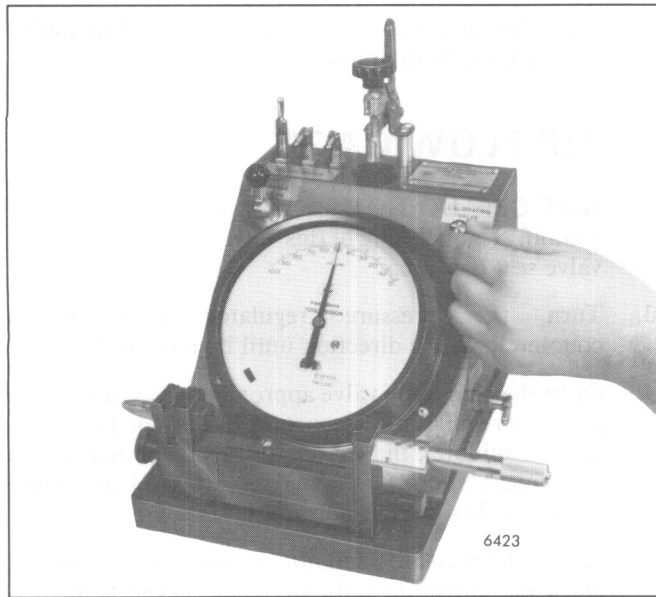

Fig. 13 – Adjusting the Calibrating Valve
3. Adjust the calibrating valve, so that the gage needle is exactly at the “set line” (Fig. 13).